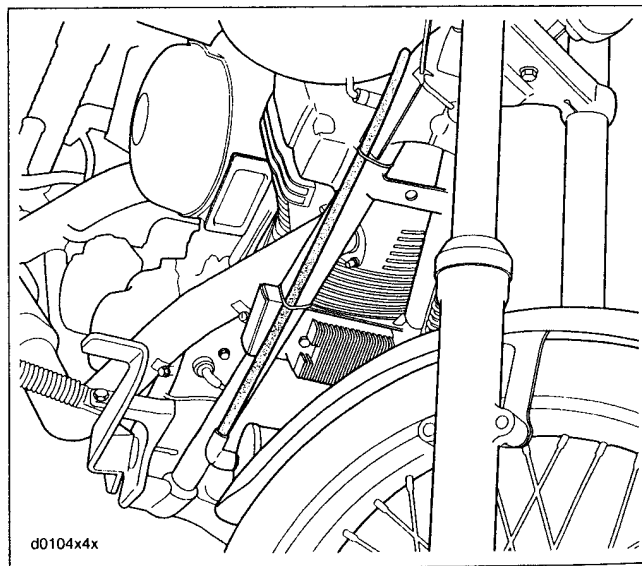
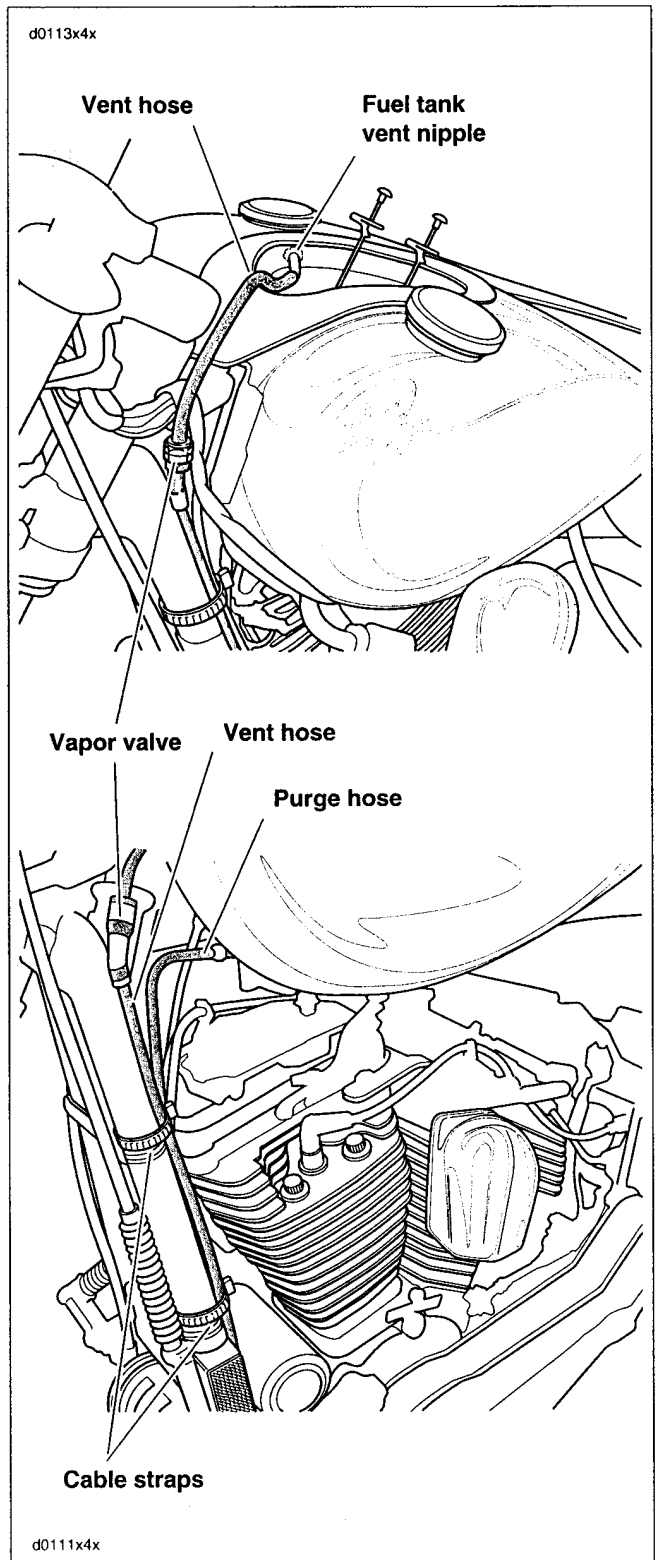

Figure 4-20. Hose Routing-Clean Air Inlet Hose
Figure 4-21. Hose Routing-Purge Hose and Vent Hose
- c. See Figure 4-21. Route **over** fuel tank crossover tube, to right side canister fitting. See Figure 4-20.
- b. See Figure 4-21. Route purge hose under fuel tank along backbone to left side of motorcycle. Route purge hose down frame to canister.
- a. See Figure 4-21. Attach one end of the upper fuel tank vent hose to the top (long) fitting on the vapor valve.